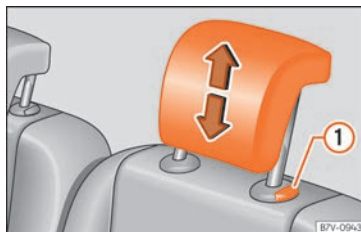

Fig. 132 Adjust the headrests in the second or third row of seats
- Move the headrest up or down in the direction of the corresponding arrow. Regarding the rear headrest, to both raise and lower, press the button »» Fig. 131 ①; for the rear headrests it is only necessary to press the button »» Fig. 132 ① to lower them »» Δ in Introduction on page 133.